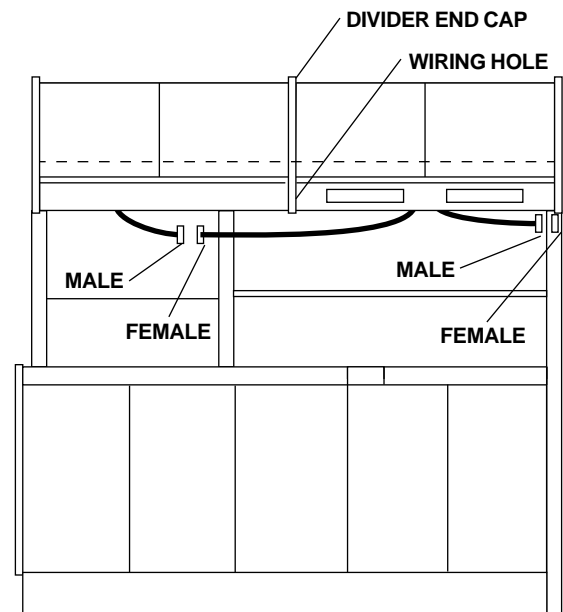

FIGURE 26
- Route the wiring through the hole in the divider end cap (see Figure 26, the wiring is shown outside of the end cap for clarity). Connect the task light wiring as shown.